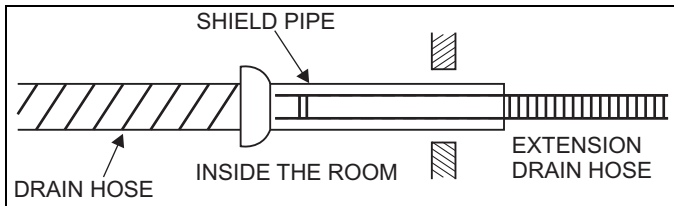

FIGURE 18: Drain Hose Extension
- If drain hose extension or embedded drain piping is required, use appropriate parts that match the hose front end. See Figure 18.
- Insert drain hose into the handle of drain pan, and join drain hose and connecting hose according to Figure 18.